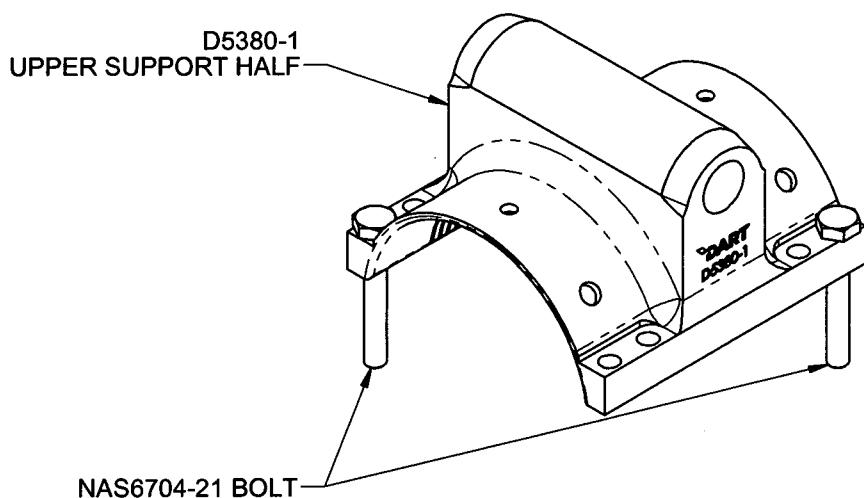

Figure 1 - Support Installation
- 2.10 Install D5380-1 Upper Support Half onto the crosstube as shown in Figure 1 and install Qty (2) NAS6704-21 Bolts into opposing corners of the D5380-1 Support. Use the rocker beam as a guide to ensure proper orientation of the D5380-1/3 Center Support in relation to the D4910-1 Chafing Shields.